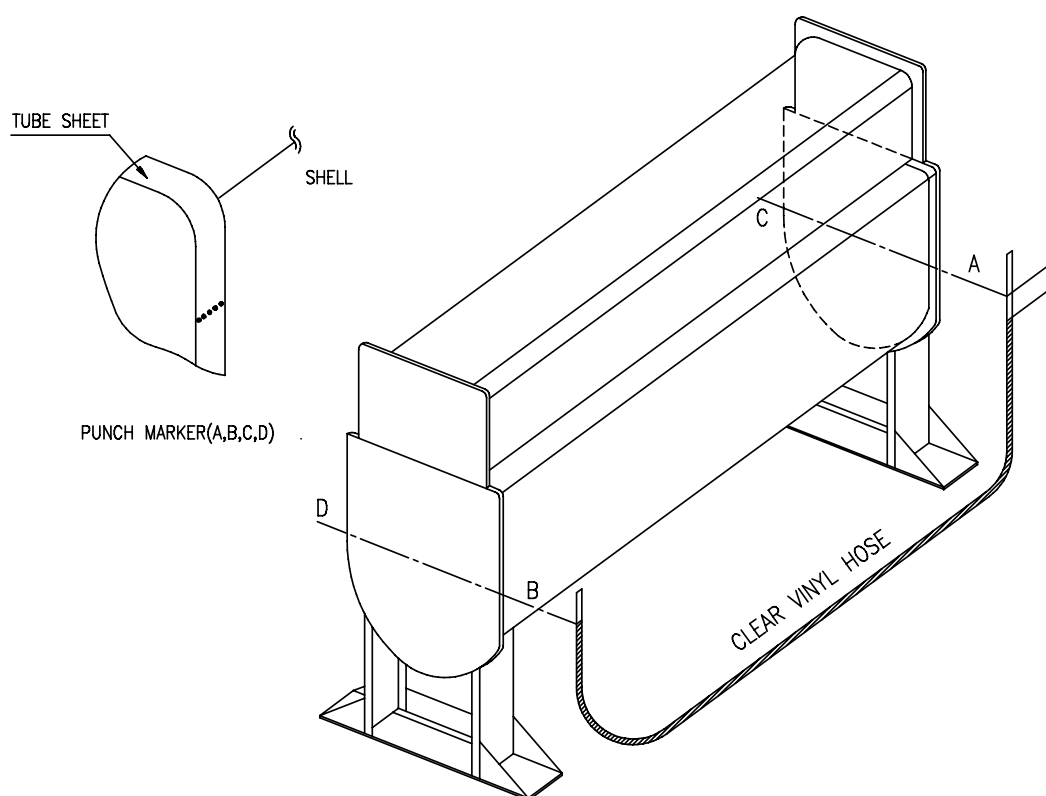

Fig. 3-4. Leveling of the Machine
- 2) The leveling check points are marked on each corner of the tube sheet of lower shell of the Machine. When checks the horizontality of the Machine after positioning, fill a clear vinyl hose with water and measure the water heads difference between 1(one) point and other 3(three) points as illustrated in Fig. 3-4.